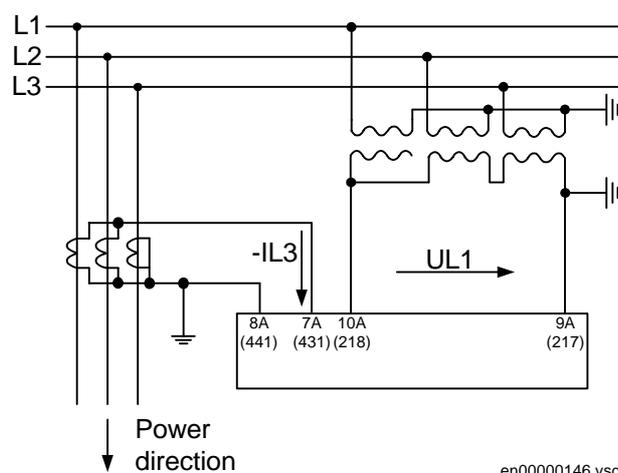

Figure 5: Directional testing of an earth-fault protection with characteristic angle $\alpha = 0^\circ$ to $+90^\circ$.
2. Short-circuit the secondary winding of the CT in phase L3 and disconnect it from the relay protection, see figure 5.